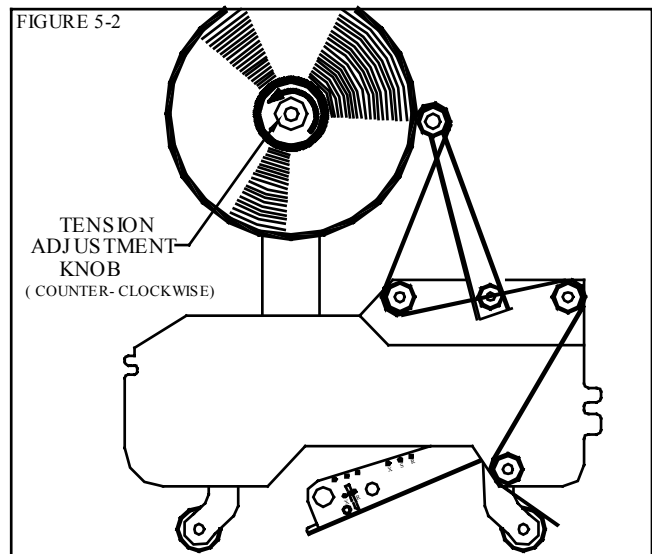

FIGURE 5-2
2. To eliminate this problem, loosen the spring tension thereby reducing the drag on the friction brake of the tape hub assembly [Fig 5-2]. To do this, turn the tape hub tension adjustment knob 'counter-clockwise' to decrease the tension and reduce the drag.